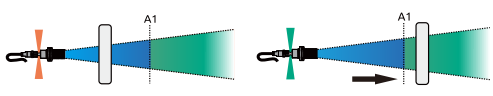

Figure 16 - Single trigger when target is removed
- When the moving distance (S) of the object is greater than the set distance (A1), the output signal switches. The working principle is shown in Figure 16. When operating, it is necessary to set a custom user range: $A1 = S, A2 = \infty$